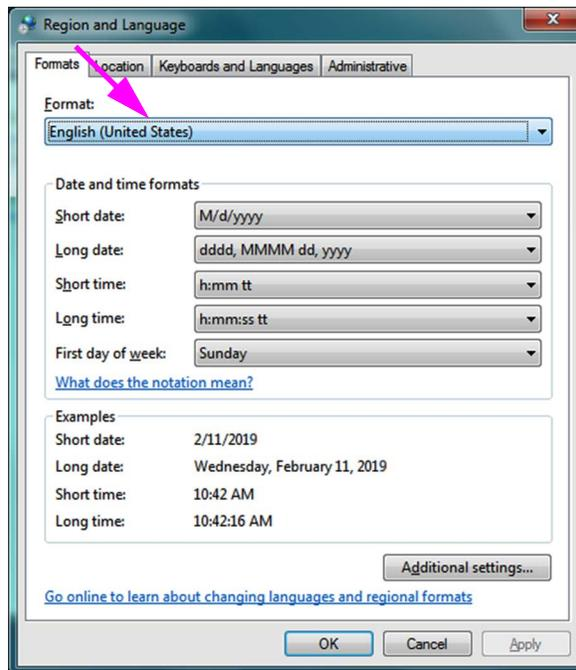

Figure C-15. Region and Language Drop-Down Window—Formats Tab
5. The Region and Language screen appears (see Figure C-15).